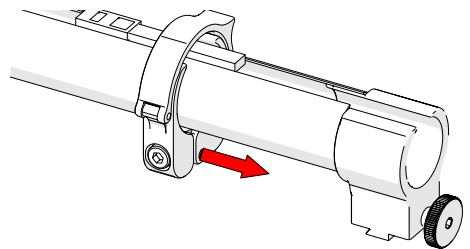

Fig. 65 - Slide clamp onto mount
3. Slide the clamp over the tube and cable management dovetail mount, pinching the tube in between (Fig. 65).